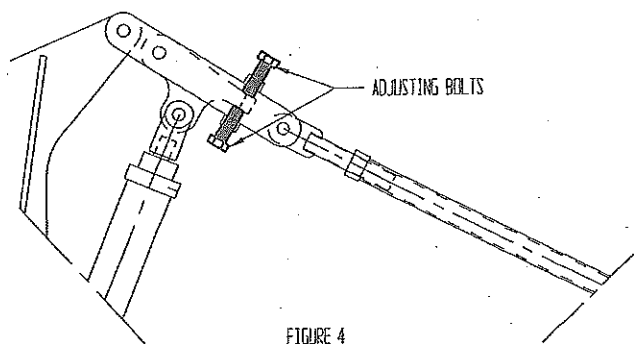

FIGURE 4
- The large turnbuckles on each wing lock must be adjusted to level the wings with the center and hold the bucket wings down tight when in a locked position. There are two adjusting screws on each lift lock that are used to adjust the hydraulic cylinder stroke to lock the hydraulic cylinder pins about 1/8" to 1/4" past center (Figure 4). This will hold the bucket wings in a locked position with no pressure on the hydraulic lines.